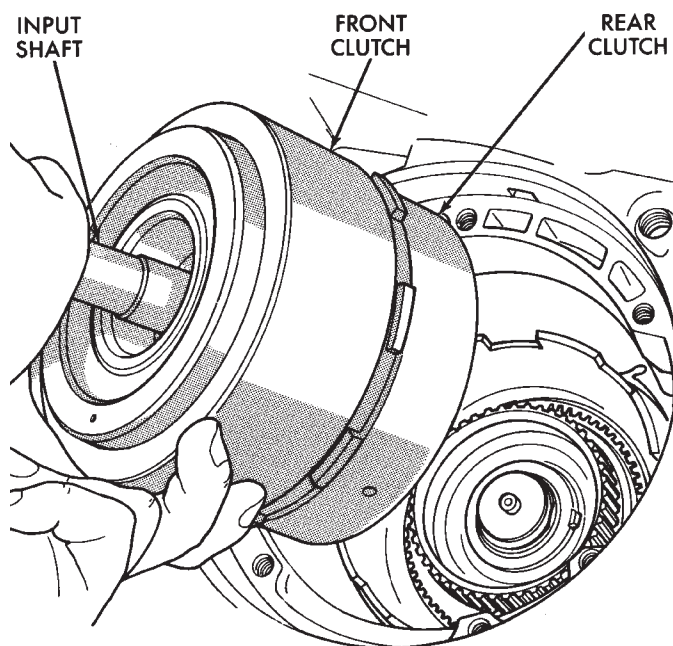

Fig. 18 Removing Front/Rear Clutch Assemblies
(27) Slide front band rearward and onto driving shell. Band will not be removed until after front/rear clutch removal.
(28) Remove front and rear clutch units as assembly. Grasp input shaft, hold clutch units together and remove them from case (Fig. 18).